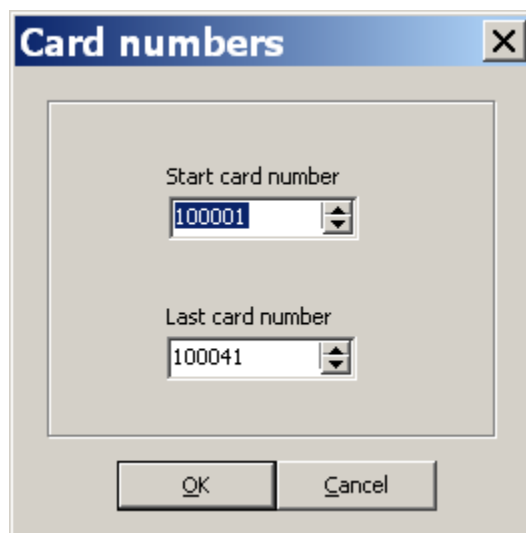

Figure 3-37 The 'Write batch' dialog screen
4. Click in the check-box 'Write batch'. You will see a dialog screen (Figure 3-37). The field 'Start card number' is selected.